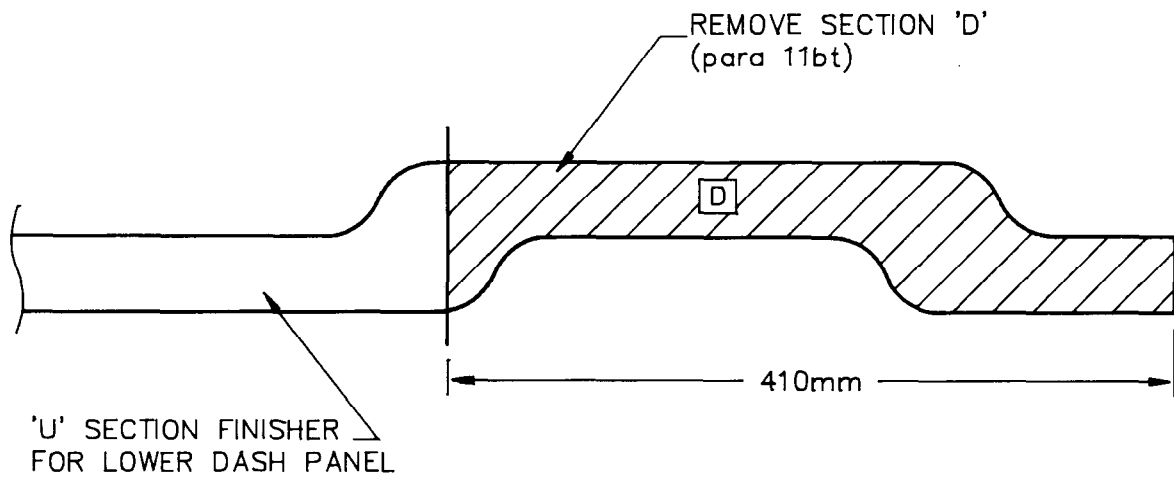

Figure 7 - Plastic U Section Finisher for Lower Dash Panel
- bt. Locate the plastic U Section finisher for the lower dash panel and rework as shown in Figure 7.